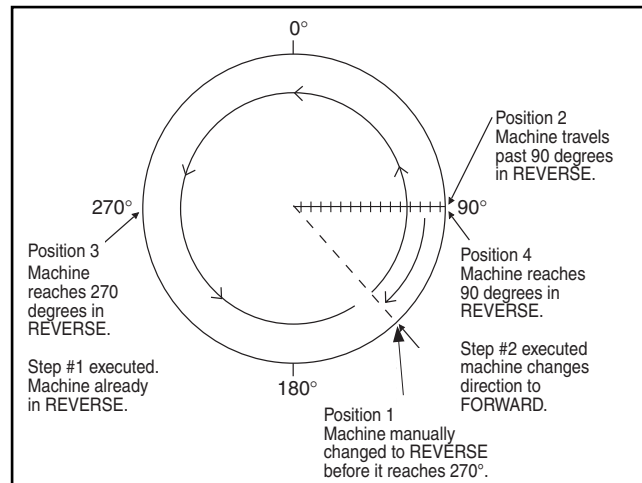

Figure 154-1
- The machine travels past 90° in the REVERSE direction to 270°, which is not desired. Refer to Figure 154-1.